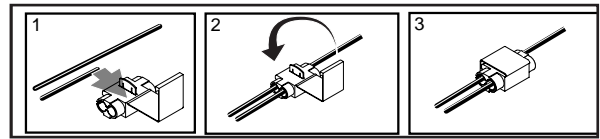
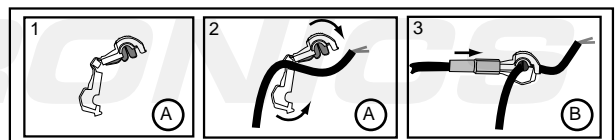

Fig. 1
Fig. 3
6. Lead the rest of the wiring harness along the left side to the dashboard. Connect the red wire to the brakelight switch (fig. 1). Connect the orange wire by using the supplied pinch-connector (fig. 3) with the +30 live feed wire of the fusebox. (connector C)